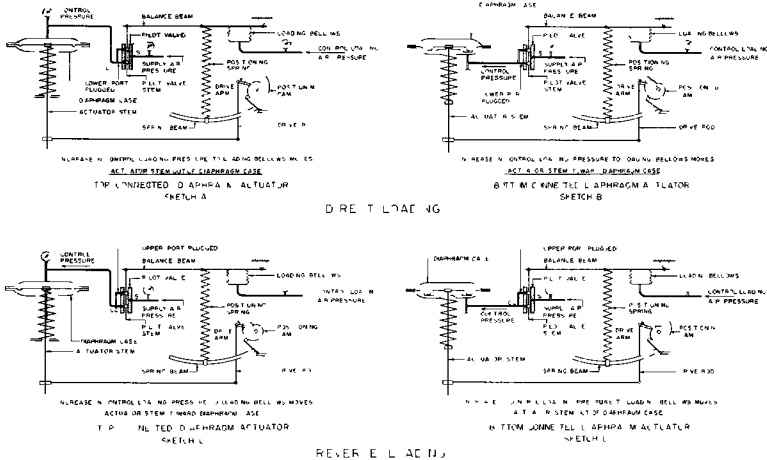

FIGURE 1 - Positioner Applied to Diaphragm Actuator
- (1) the type of diaphragm actuator (top or bottom connected),
- (2) the type of loading required (direct or reverse as shown in Figure 1), and
- (3) the rated travel (stroke) of the valve plug stem
e Refer to Figure 5. Remove plug disc from lower port connection of valve block and exchange it with O ring in upper port connection. Reassemble pilot valve to valve block. This provides the arrangement shown in Figure 1, Sketch C or D.